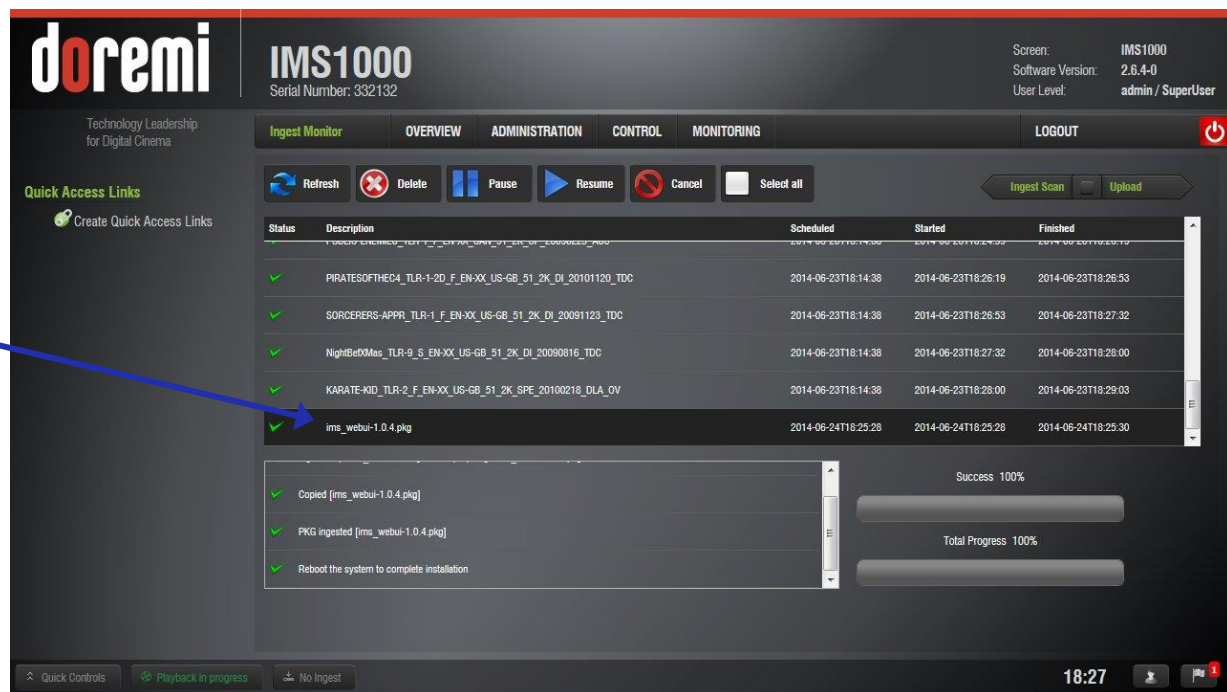

Figure 283: Package Ready for Ingest
- When the unit has finished rebooting, login and go to Control → Ingest Manager → Ingest Monitor. The package will be available for ingest (Figure 283).